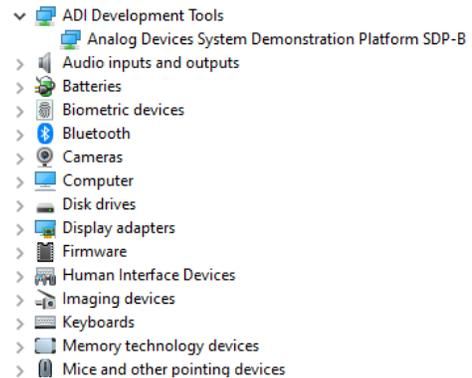

Figure 15. Device Manager Dropdown Menu
- When plugging in the SDP-B board with the provided USB cable, allow the **Found New Hardware Wizard** to run. Check that the drivers are installed and the SDP-B board is connected properly by checking the **Device Manager** of the PC. If the drivers and board are connected, **Analog Devices System Demonstration Platform SDP-B** appears under **ADI Development Tools** (see Figure 15).
4. If the EVAL-ADAF1080SDZ evaluation board and **SDP-B** controller board are connected to the PC by the USB port but are not being detected by the **EVAL-ADAF1080SDZ Evaluation Board Software**, ensure that the boards are being recognized in the **Device Manager**, as shown in Figure 15.
- d. If no data is read back, confirm that the EVAL-ADAF1080SDZ is connected to the SDP-B with the CON-A connector or with the CON-B connector and that the board is recognized in the **Device Manager**, as shown in Figure 15.